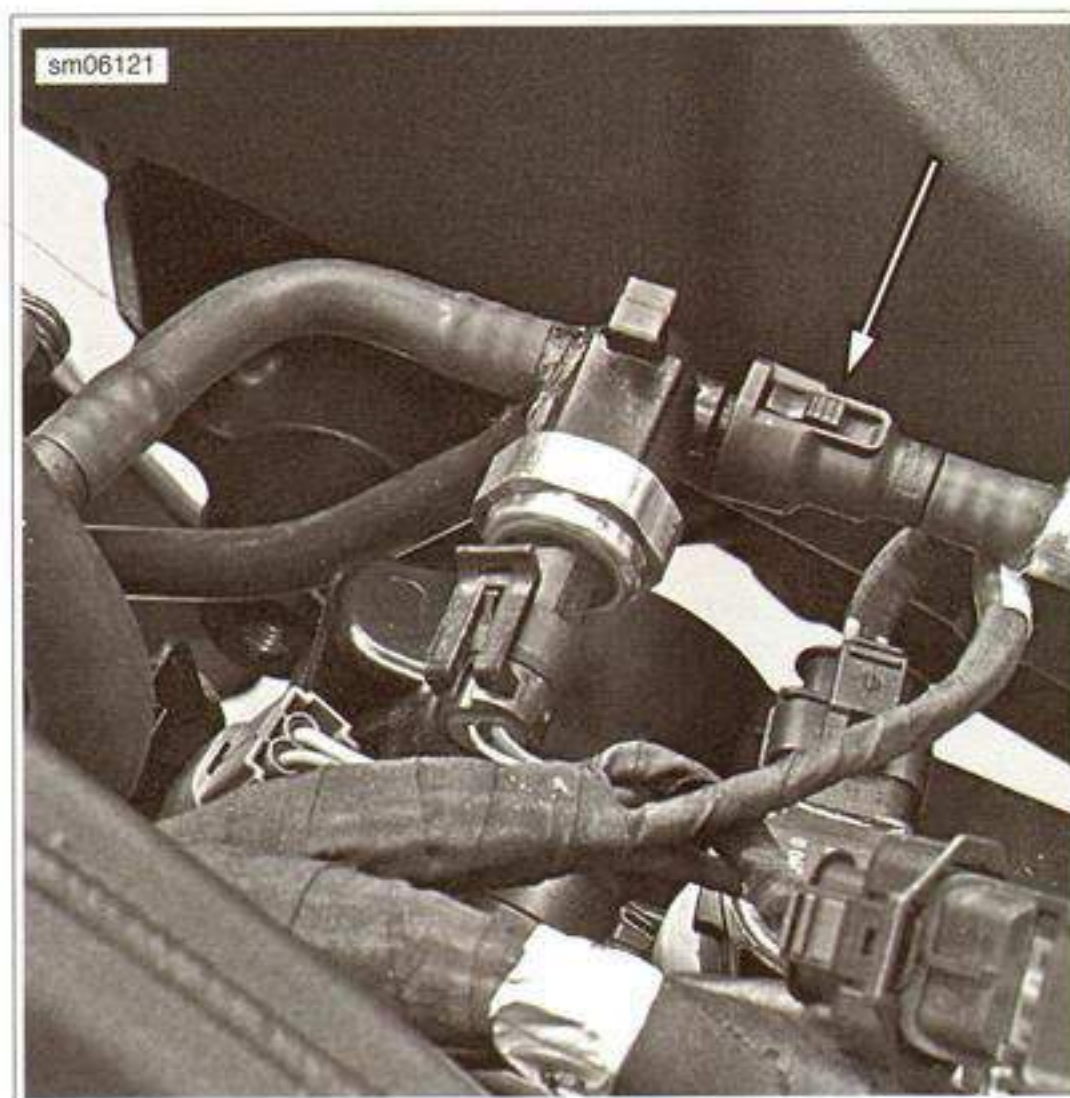

Figure 3-6. Fuel Line Connector
4. See Figure 3-6. Disconnect the fuel line.